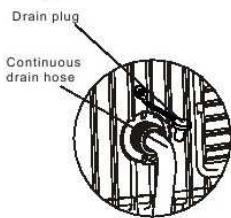

Fig.15
2. Attach drain hose to the opening. 3/4" hose can be purchased locally. (Fig.15)